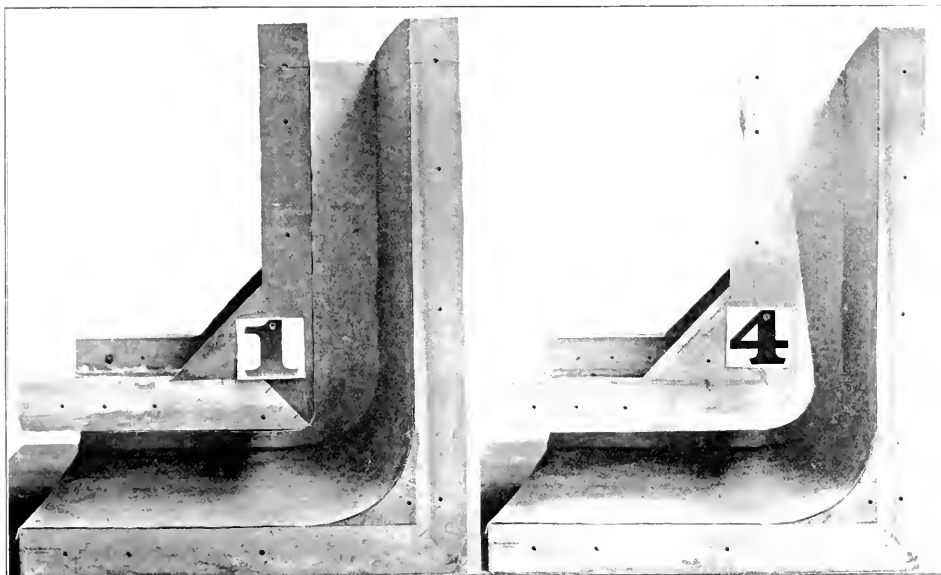
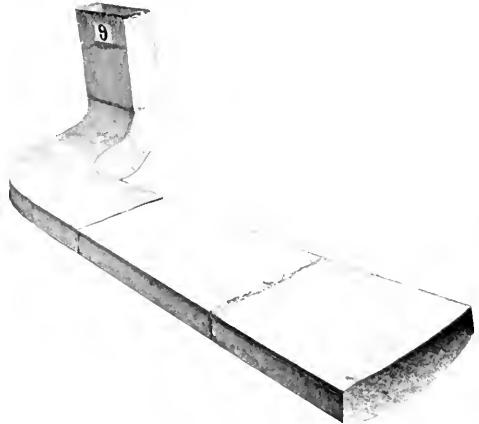

FIG. 14. TYPES OF RIGHT ANGLE ELBOWS HAVING STRAIGHT AND VENTURI DEPARTURE TUBES
FIG. 15. COMPOUND ELBOW
*General Statement.* A reference to Fig. 12 will show that in addition to the friction pressure losses in the vertical ducts (risers), the horizontal ducts (drifts), and the air distributing tunnel ducts, there are losses in the elbows (Fig. 12—Elbows C, E and G) which must be used wherever a change in the direction of air flow is made. More or less information is available on air flow through ordinary right angled elbows (Fig. 14) of varying curvatures at heel and throat at low velocities. No information is available on the compound elbows (Fig. 15), which must be used to make the transition from the vertical shaft to the lower tunnel duct. Moreover, little is known as to the effect of using a venturi departure tube (Fig. 14, Elbow No. 1) in an elbow that would otherwise have a very
in which small and large scale models were used, has been taken from the final report. By using models dimensionally similar (Figs. 15 and 17) but of two sizes, as in the case of the compound elbows, it was possible to extend the experimental results to the full size tunnel elbows. The scale ratios are given in Table I.
The friction pressure losses for the compound elbows marked 6, 7, 8, 9 and 10 as shown in general features by Fig. 15 are given by the curves in Fig. 18. The details of the elbows, which were small scale models of the proposed down-cast elbows at the base of the tunnel air supply shafts are shown in Fig. 18. Only one elbow, No. 6, carried a deflecting vane. Except for the vane, elbows 6 and 7